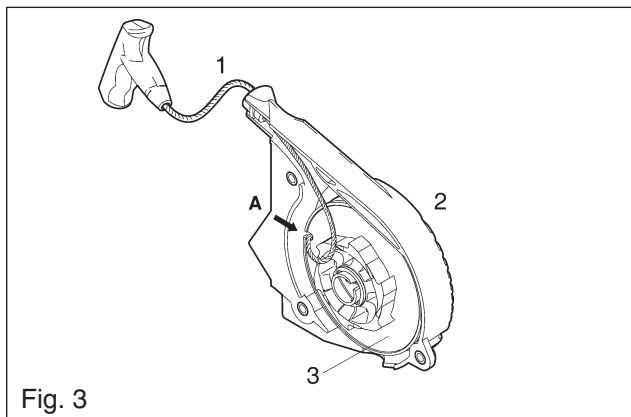

Fig. 3
Pull out about 40 cm of rope (1) from the cover (2), and lay the rope in the notch (A) in the starter pulley (3), see Fig. 3.